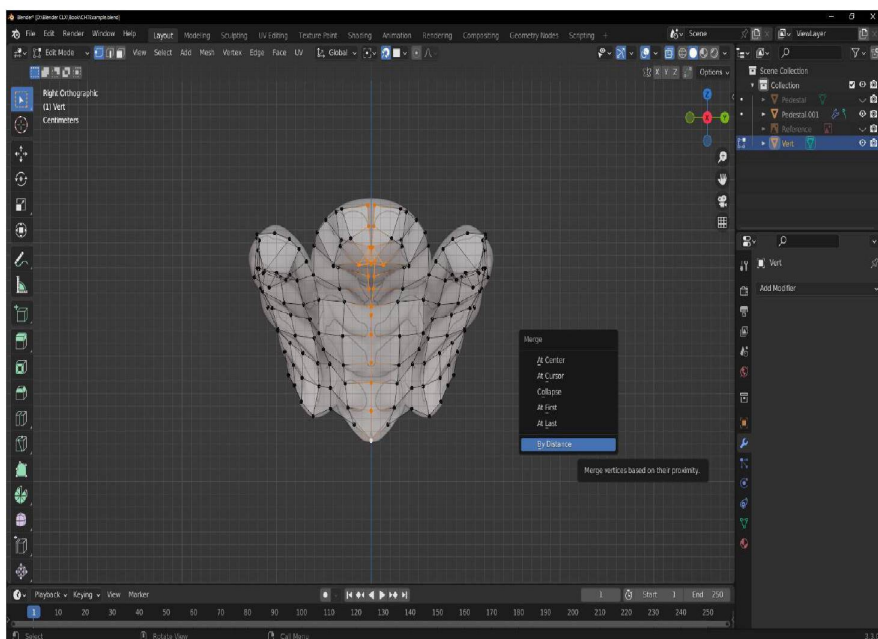

Figure 7.8: Middle vertices selected in X-Ray mode
23. Clear the selection, then box select just the middle vertices as shown in *Figure 7.8*.
24. Press **M** to activate the **Merge menu** and select **By Distance** as shown in *Figure 7.8*.